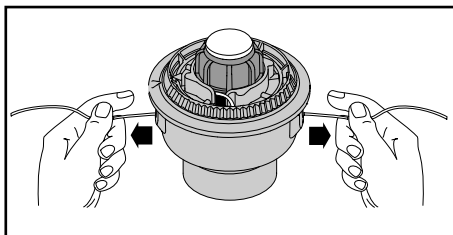

Fig. 23
1. Pull the ends of the line firmly away from the spool to release the inner reel (Fig. 23). If this procedure does not release the inner reel, follow the "Cleaning the SpeedSpool" instructions below.